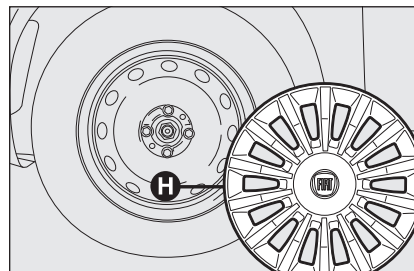

fig. 4
- remove wheel hubcap **H**-fig. 4 (versions with steel rims) or remove the hub cap (versions with alloy rims);